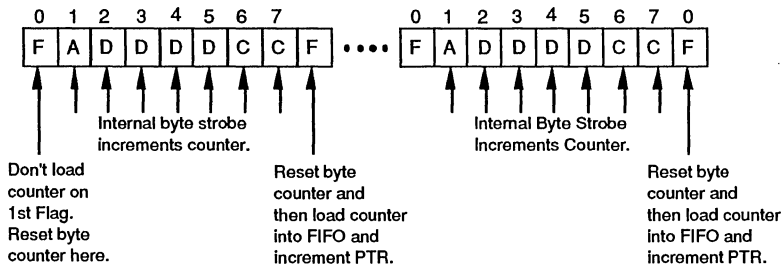

Figure 17. SDLC Byte Counting Detail
**Write Operation.** When the end of an SDLC frame (EOF) has been received and the FIFO is enabled, the contents of the status and byte-count registers are loaded into the FIFO. The EOF signal is used to increment the FIFO. If the FIFO overflows, the RR7 bit D7 (FIFO Overflow) is set to indicate the overflow. This bit and the FIFO control logic is reset by disabling and re-enabling the FIFO control bit (WR15 bit D2). For details of FIFO control timing during an SDLC frame, refer to Figure 17.